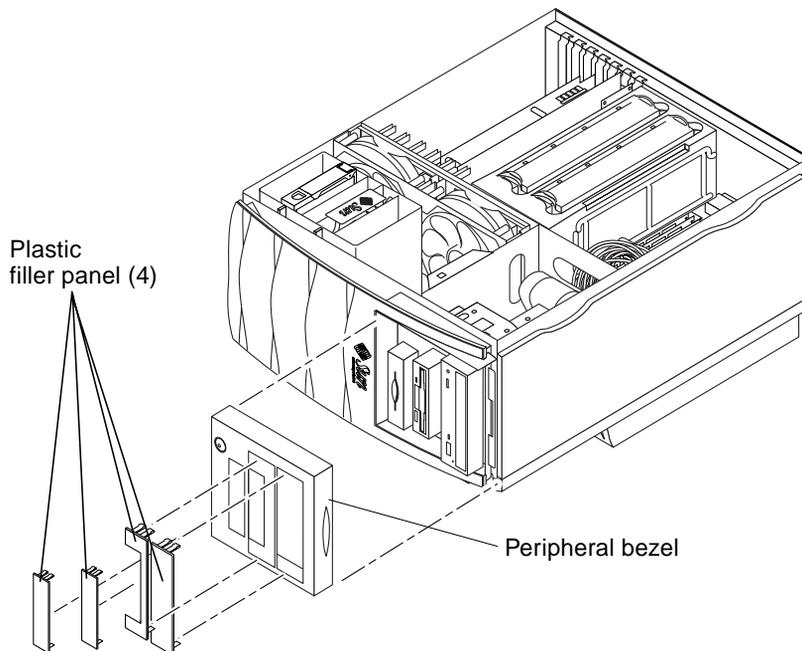

FIGURE 6-18 Removing and Replacing Plastic Filler Panels
2. Remove the peripheral bezel assembly (FIGURE 6-18).
2. **Position and snap the plastic filler panel into the peripheral bezel assembly (FIGURE 6-18).**